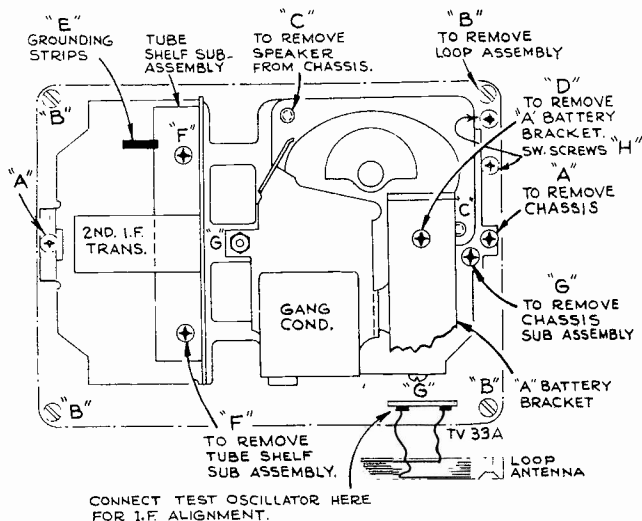

Fig. 2
- Remove four mounting screws "B" in the four corners as indicated in fig. 2 and lift off.
- Remove the two chassis mounting screws "A", fig. 2.
- Unsolder voice coil leads, and remove the two mounting screws "C", fig. 2.
- Remove two screws (F) holding tube shelf to front plate. These screws are located between tubes 1R5 and 1T4, also 3S4 and 1S5. Rubber shock mounts may stick on studs, pry loose.
- Remove nut (G) beneath tube shelf below second I-F transformer.
- Remove screw (G) beneath the negative terminal of "A" battery holder, and also screw (G) adjacent to volume control below "A" battery holder.